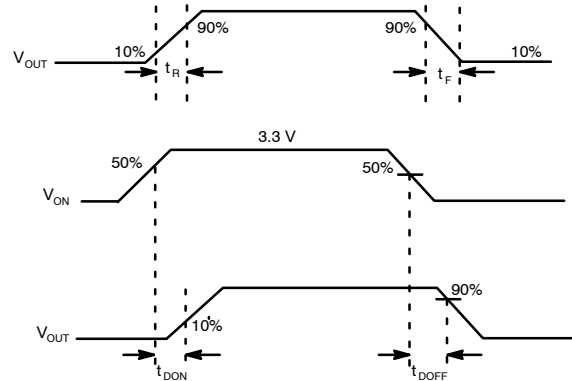

Figure 23. Timing Diagram for FPF1203/4
4. t_{DON} / t_{DOFF} / t_R / t_F are defined in Figure 23.